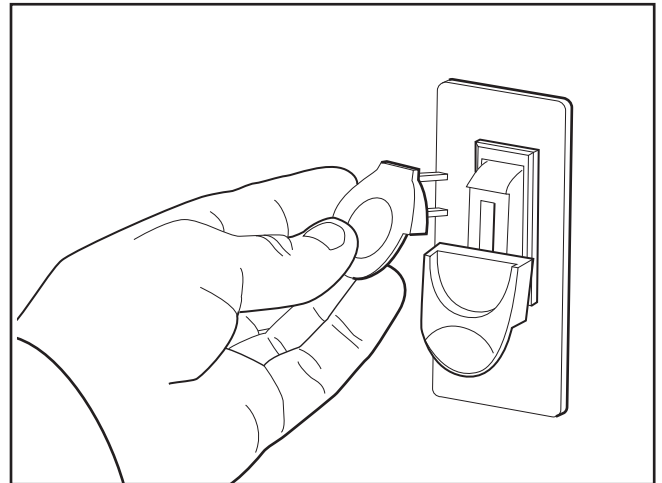

Figure 8. Locking-out.
3. To lock-out the switch, remove the yellow key from the switch housing, as shown in **Figure 8**. Place the key in a safe place.